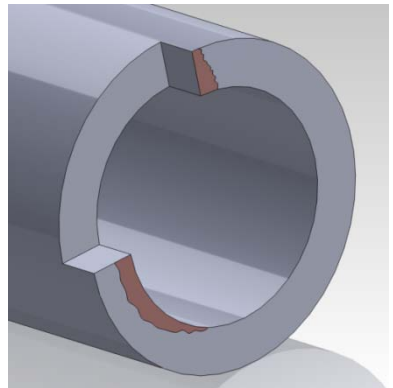

Figure 5: Crack Aspect Ratio
4. Root rolling the connection has a work-hardening effect on the surface of the material. On a molecular scale, the displacement of the crystalline lattice within the steel grain structure causes the crystal structure to change from a repetitive and uniform atomic structure, to one with many dislocations in the pattern. These dislocations in the iron matrix cause the crystal structure to interlock, and become more resistant to further deformation. This added resistance to deformation at the surface of the material helps prevent cracks from starting, and helps arrest microscopic cracks from growing into structural flaws that threaten the integrity of the joint. In lab studies, cracks that have occurred in cold rolled joints have exhibited a significantly lower Crack Aspect Ratio (Crack Length/Crack Depth). A 30% to 50% lower CAR means that cracks in cold root rolled products are more likely to be deep and short (as illustrated by the crack at the top of the pipe shown in Figure 5), rather than long and shallow (as illustrated by the crack at the bottom). A shallow crack is more likely to lead to a sudden and complete structural failure of the joint. A deep crack that partially penetrates the section wall is detectable via pressure drop of circulating drilling fluids, and allows for an early recovery of damaged string prior to complete structural failure of the joint ⁽¹⁾.